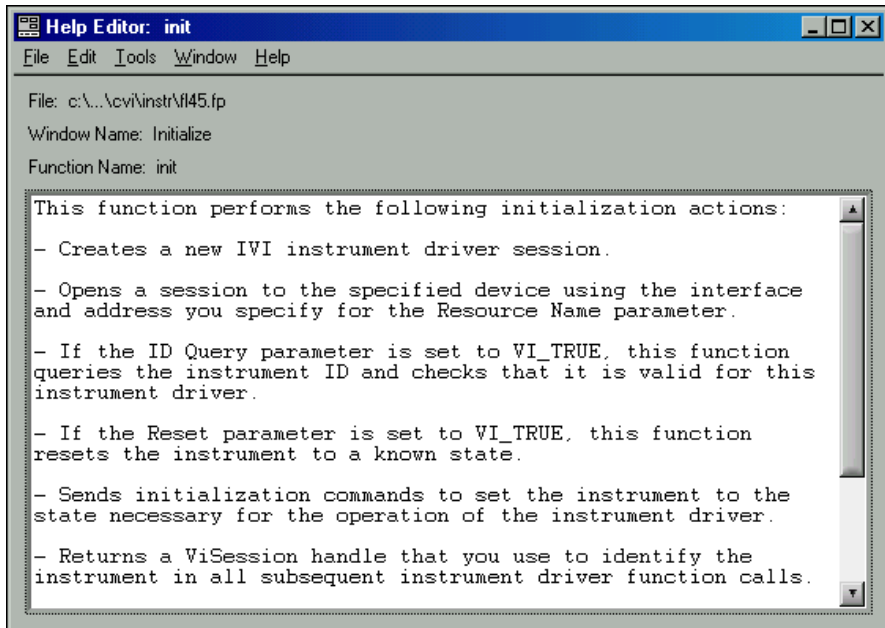

Figure 3-6. Fluke 45 Function Panel Help
- Function panel help describes the function call. Figure 3-6 shows the function panel help from the Fluke 45 instrument driver.